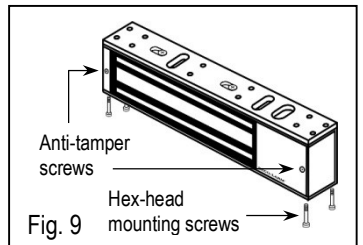

Fig. 9
9. Remove the two anti-tamper screws from the electromagnet and the cover plate. (see Fig. 9). Remove the four hex head mounting screws to unmount the mounting plate from the electromagnet.